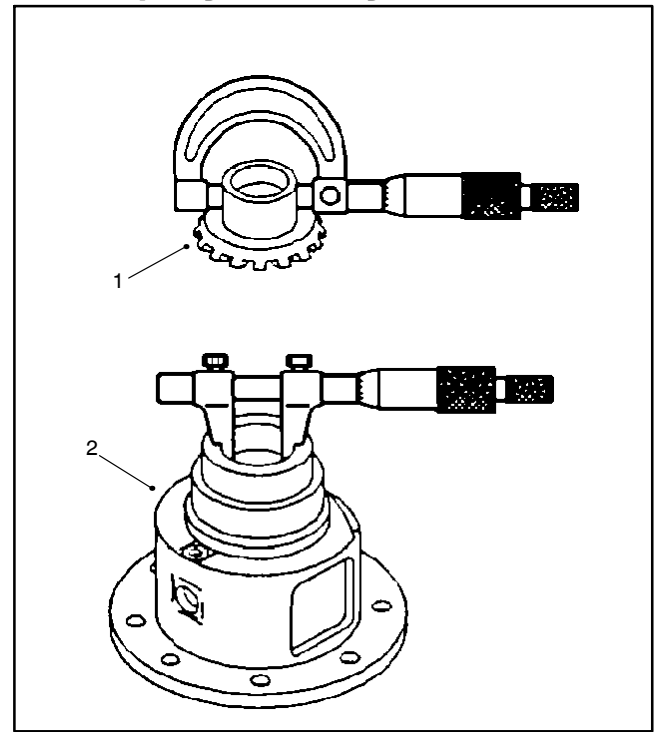

Figure 35
1. Measure the differential side gear O.D. and the differential case I.D. to determine the side gear to case clearance (Fig. 35). Replace components as necessary.